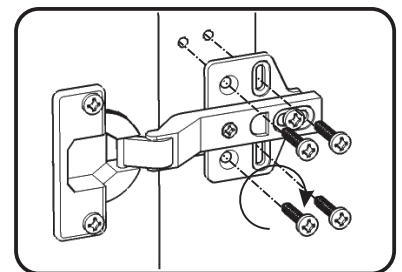

Figure 5
Attach Doors (D), (E), (Q) and (R) to unit with Wood Screws for Hinge. (See Figure 5)